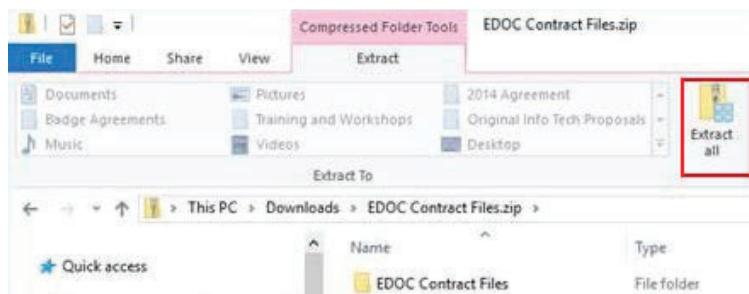

Figure 2-6: Extract all files
6. Click on **Extract all** (Figure 2-6).